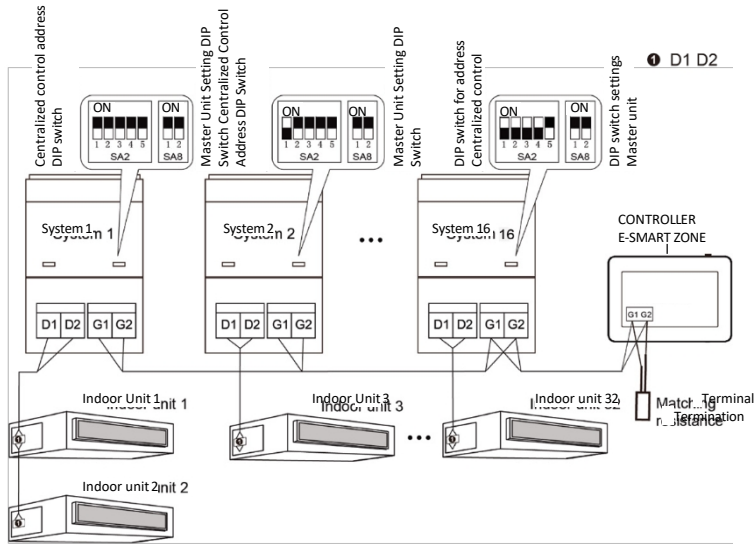
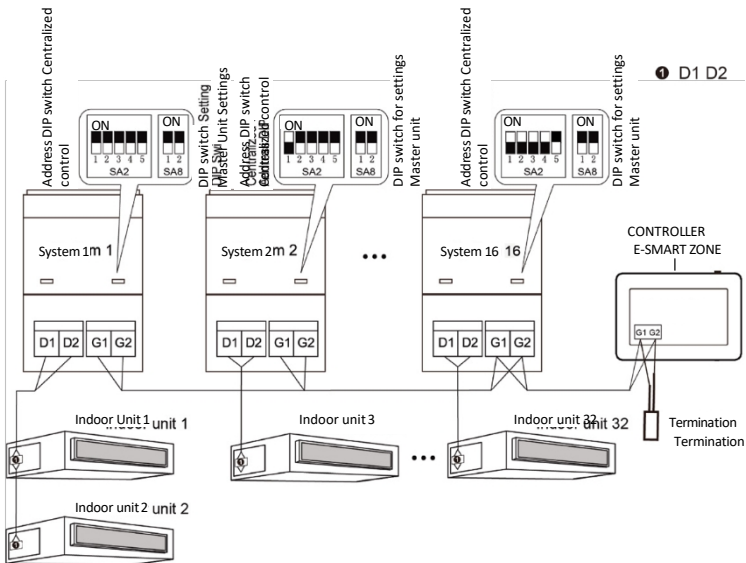

Fig. 3.5 Centralized controller connected to the UE network
Fig. 3.6 Centralized controller connected to the heat recovery mode converter network
- ③ If the centralized controller is to be connected to the UE network, make the connections as shown in Fig. 3.5. The centralized controller can only be connected to the UE network terminal system. An appropriate resistor must be added to the communication cables on ports G1 and G2.
- ④ The DIP switch for the centralized controller address (SA2_Addr-CC) sets the address of the centralized controller, which is required when multiple refrigeration systems are controlled in centralized mode. The factory default setting is "00000".
- ⑤ If the centralized controller is to be connected to the heat recovery network, make the connections as shown in Fig. 3.6. Method 2 also applies to the centralized controller connected to the heat recovery network.
- ⑥ If the centralized controller is to be connected to the UE network, set the DIP switch for the outdoor unit's centralized control address as follows:
- ⑦ On the master outdoor unit, the DIP switch (SA8) must be set to 00. Otherwise, the setting is invalid;
- ⑧ On the same refrigeration system, the DIP switch for the centralized controller address on a non-master unit is not valid, and it is not necessary to change the settings;
- ⑥ The address DIP switch on the centralized controller of the master outdoor unit of a refrigeration system must be set to 00000, as this system is the master mode system;